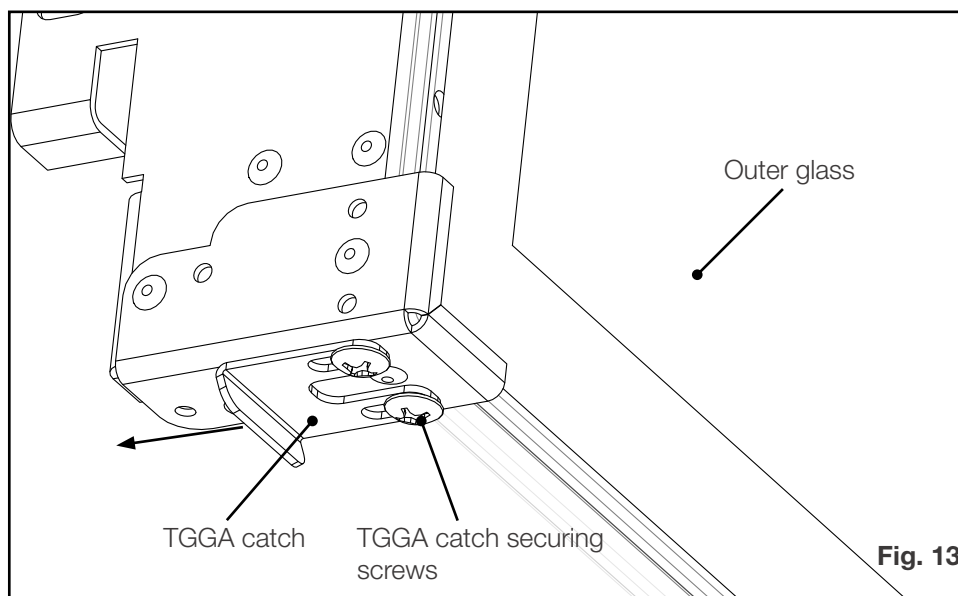

Fig. 13
10. The TGGA catches should be installed toward the appliance. It may be necessary to loosen the TGGA catch securing screws on the bottom of both sides of the TGGA and slide them all the way towards the back of the TGGA. Retighten securing screws **(Fig. 13)**.